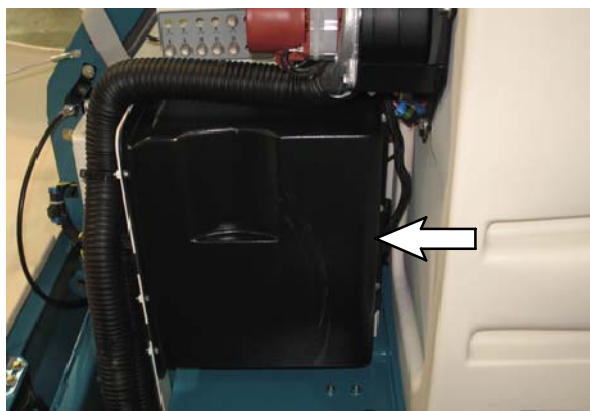

FIG. 4
5. Remove the cover from the control box. Set the hardware and cover aside. Refer to Fig. 4.